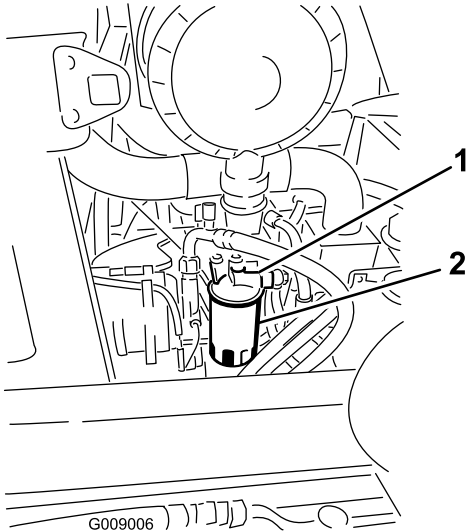

Figure 60
1. Clean the area around the fuel filter head (Figure 60).
2. Remove the filter and clean the filter head mounting surface (Figure 60).